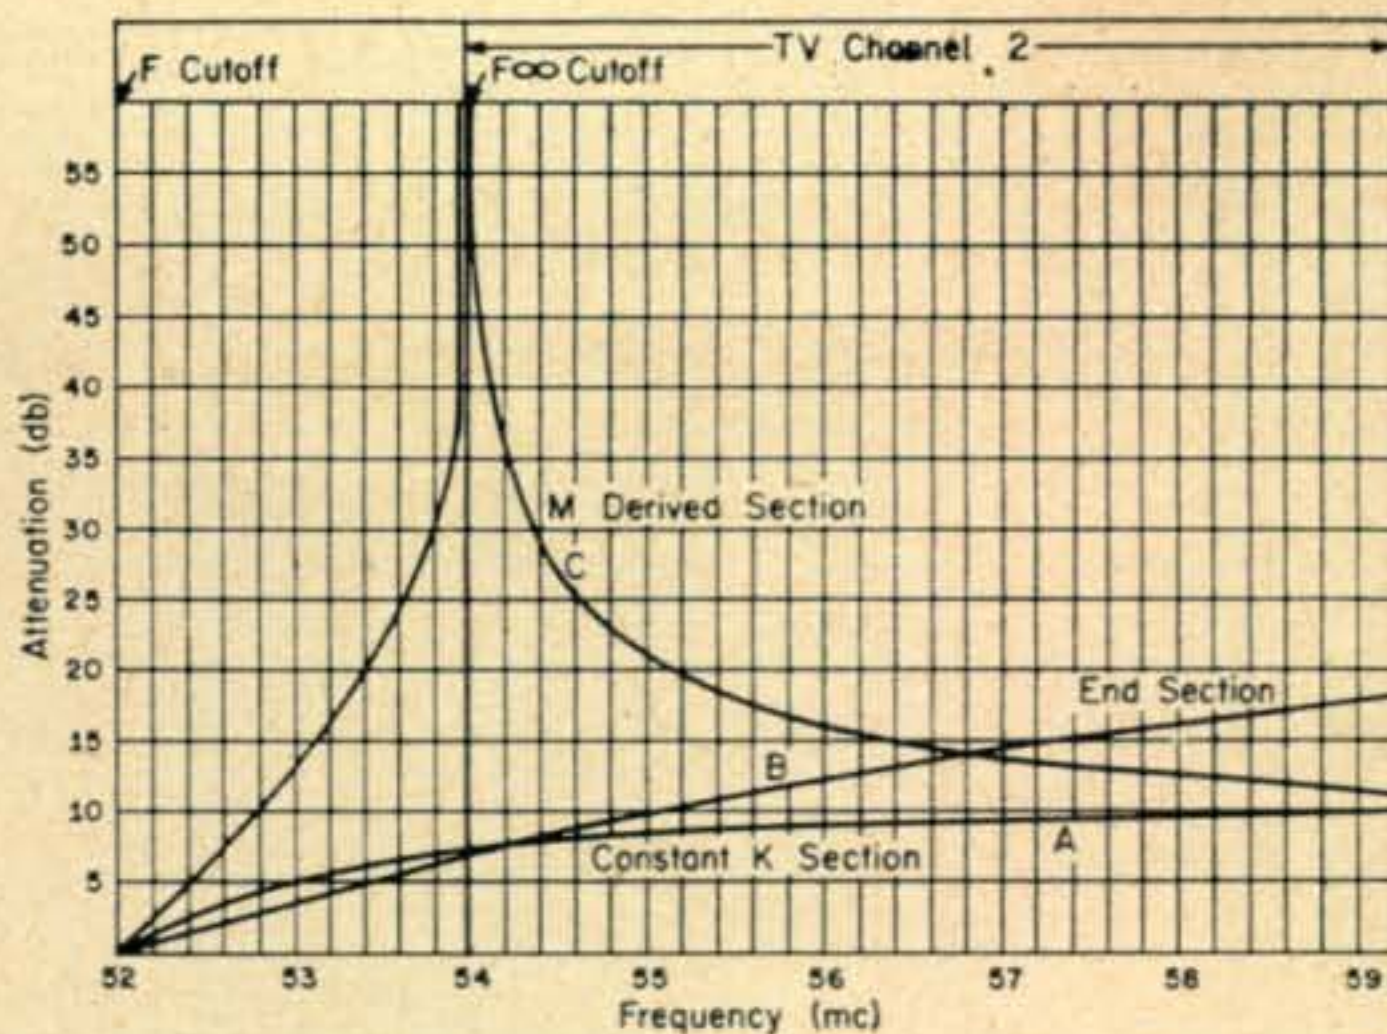

Fig. 3—Attenuation characteristics of the various filter sections. Curve C is actually the left vertical curve.
Figure 3, curve (A), illustrates the attenuation characteristics of this filter. At 54 mc we have only about 7 db attenuation. Evidently we should attempt to increase this value or retire back to 75 phone or find an area with no television receivers.
A look at the attenuation characteristics for the M derived T section in fig. 3, curve (C), shows the improved suppression in the Channel 2 area.
A look at the attenuation characteristics of the end sections shown in curve (B) of fig. 3 show